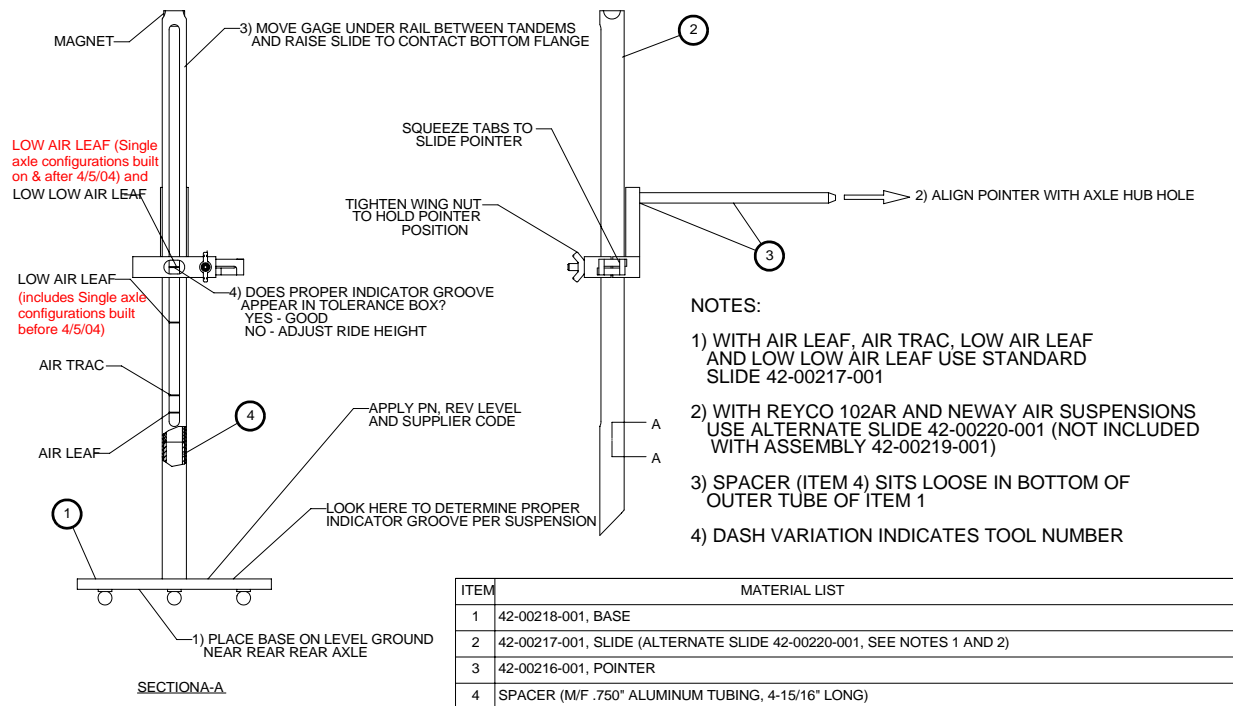
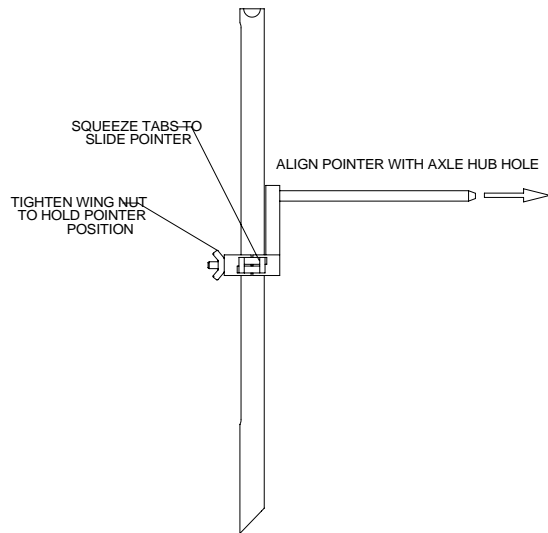

Figure 1 Illustration of Ride Height Gauge
Figure 2 Illustration of Aligning The Pointer of a Ride Height Gauge
5. Ensure that the ride height gauge has the correct slide installed for the suspension on the vehicle (see “NOTES” in Figure 1).
6. Place the ride height gauge near the rearmost axle such that the base is on level ground (see Figure 1 and Figure 2).
7. Align the pointer of the gauge with the axle hub hole (see Figure 2).